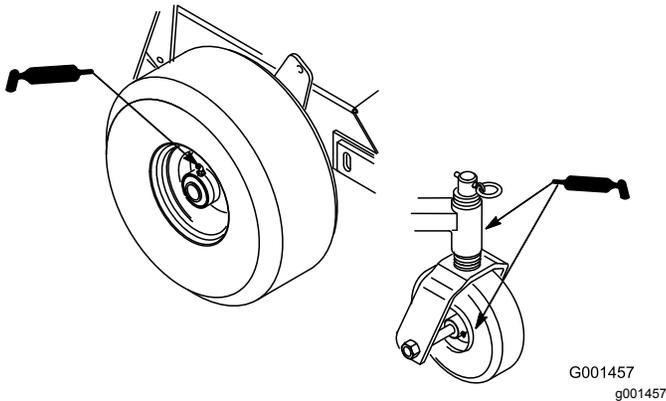

Figure 20
1. Lubricate the front-wheel bearings and front spindles (Figure 20).